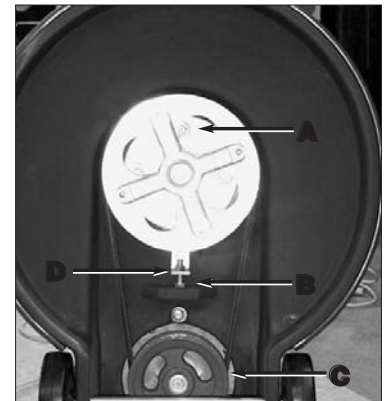

Fig 7
*See picture Fig 7*
1. Remove three (3) phillips head screws holding the pad center grip.
2. Remove four (4) large, slot head screws holding drive pad.
3. Loosen pulley mount bolts (A) with 9/16" deep socket wrench.